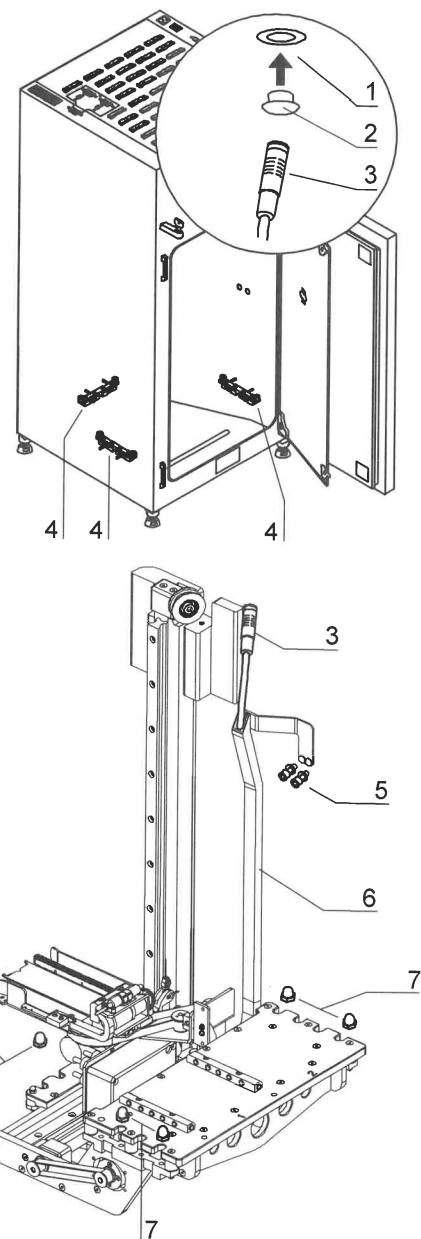

Fig. 16,
2. **Fig. 16:** Disconnect the connecting cable plug [3] from the plug receptacle [1] at the chamber ceiling.